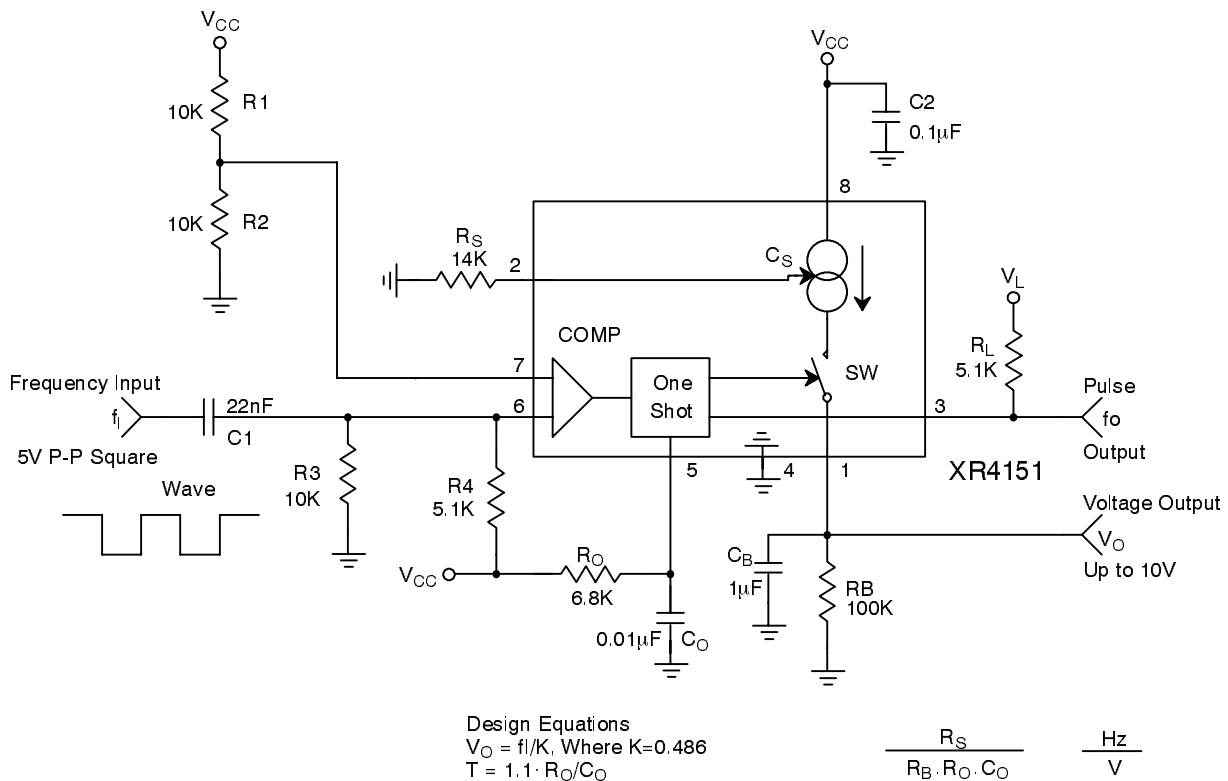

Figure 4. Frequency to Voltage Converter
The XR4151 can be used as a frequency-to-voltage converter. *Figure 4* shows the single-supply FVC configuration. With no signal applied, the resistor bias networks tied to pins 6 and 7 hold the input comparator in the off state. A negative going pulse applied to pin 6 (or positive pulse to pin 7) will cause the comparator to fire the one-shot. For proper operation, the pulse width must be less than the period of the one-shot, $T = 1.1 R_0 C_0$. For a 5Vpp square-wave input the differentiator network formed by the input coupling capacitor and the resistor bias network will provide pulses which correctly trigger the one-shot. An external voltage comparator can be used to “square-up” sinusoidal input signals before they are applied to the XR4151. Also, the component values for the input signal differentiator and bias network can be altered to accommodate square waves with different
- I. Design a precision VFC (from *Figure 4*) with $fo = 100kHz$ and $V_{IO} = -10V$.